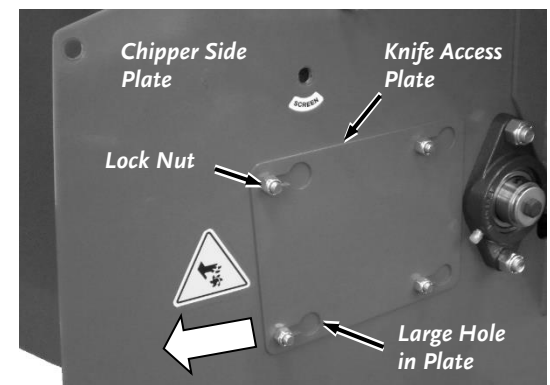

Figure 43
8. Loosen the four Lock Nuts that hold the Knife Access Plate to the Chipper Side Plate, using a 1/2" Wrench (**Figure 43**).
24. Reinstall the Knife Access Plate (**Figure 43**).